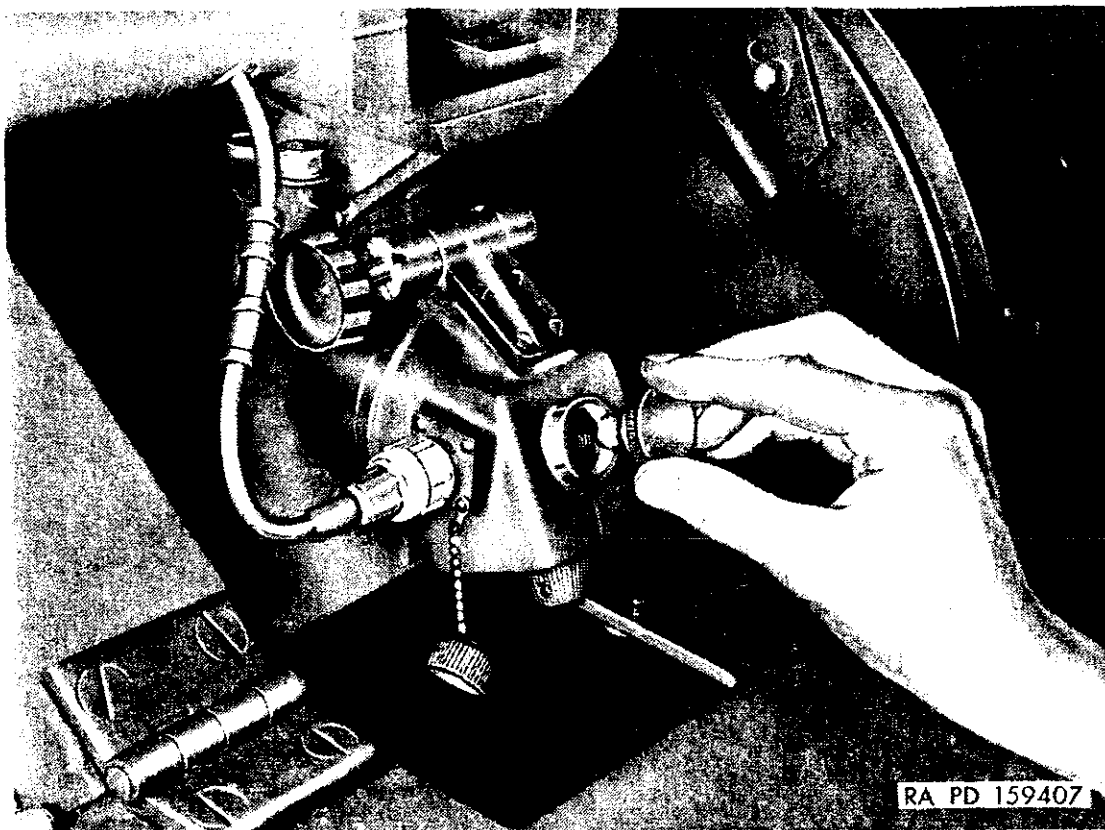

Figure 96 Removing lamp receptacle assembly from housing assembly
- (a) Unscrew the lamp receptacle assembly (fig. 96) from the housing assembly.